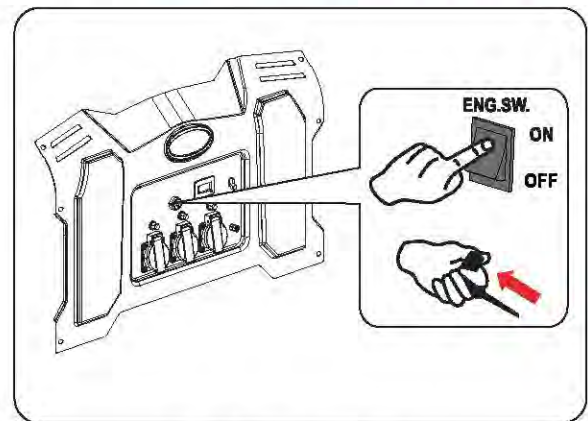

Fig 13 Recoil Start
- For manual start, turn the engine "ON/OFF" switch to the "ON" position. Pull the recoil handle (starter cord) slowly until resistance is felt, then pull rapidly. (See fig 13)